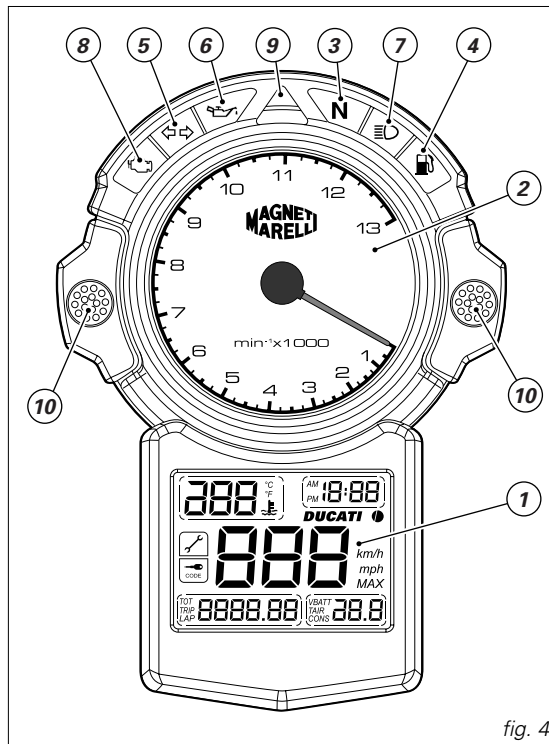

fig. 4
**Instrument panel** (fig. 4)
When coolant temperature drops below  $-40^{\circ}\text{C}/-40^{\circ}\text{F}$ , some flashing dots appear on the display and the amber **EOBD** light comes on (8, fig. 4).
When coolant temperature exceeds  $+125^{\circ}\text{C}/+257^{\circ}\text{F}$ , a flashing  $125^{\circ}\text{C}/257^{\circ}\text{F}$  temperature indication appears on the display, and the amber **EOBD** light comes on (8, fig. 4).